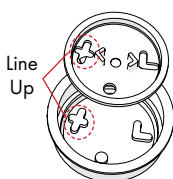

Figure 1
- STEP 5** Insert the **Plastic Disc** into the **Membrane**. **FIG 1**
STEP 7 Slide the **Bumpers** into place so that the mounting holes on the **Water Shield** line up with the mounting holes on the **Bumpers**. **FIG 1**